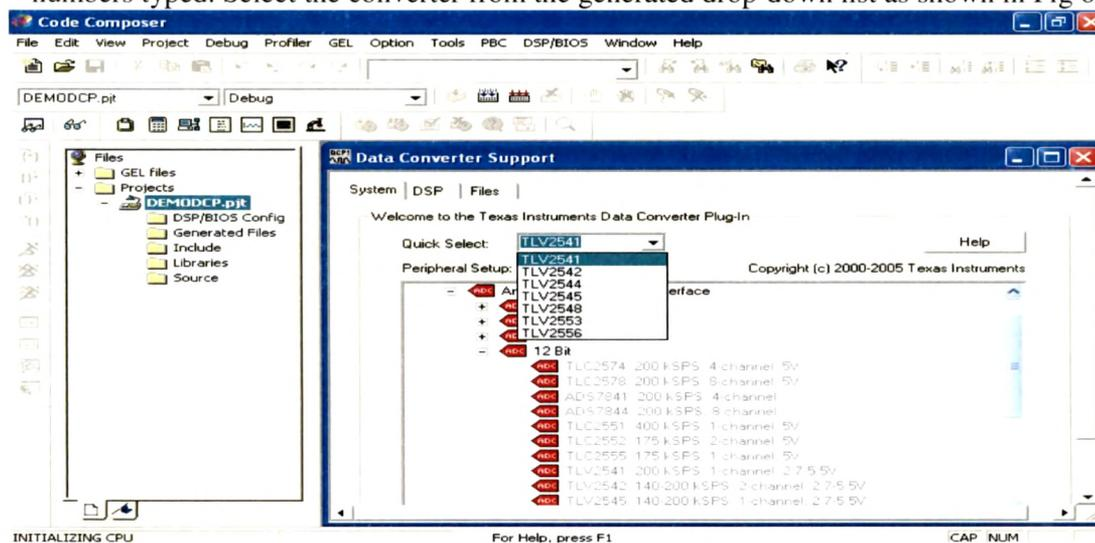

Fig 8.25 Data Converter Selection
- use the *Quick Select* feature, DCP searches for all converters beginning with the letters and numbers typed. Select the converter from the generated drop-down list as shown in Fig 8.25.